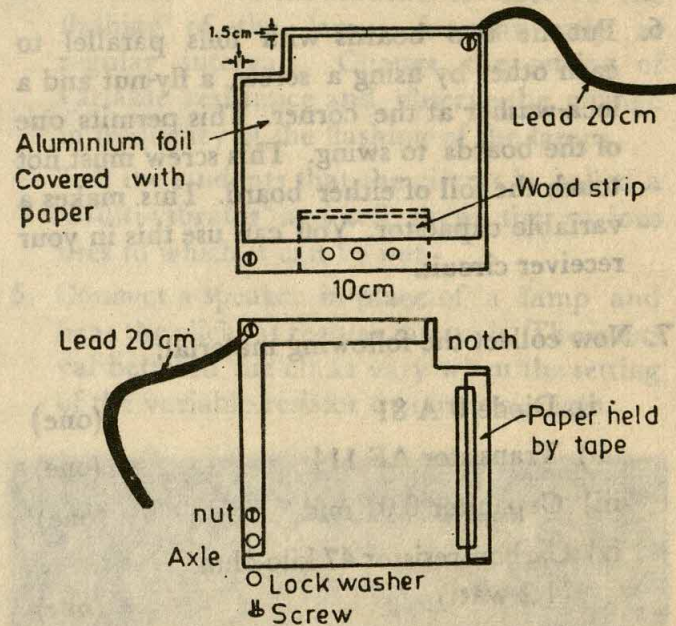

FIG. 3.9.2
4. Again ask the students to cut two identical pieces 10 cm square each, out of a hard-board sheet. Notch 1.5 cm square corners of the two hard-board pieces as shown in Fig. 3.9.2. Glue a piece of Aluminium foil to the smooth surface of each board. Fold thick